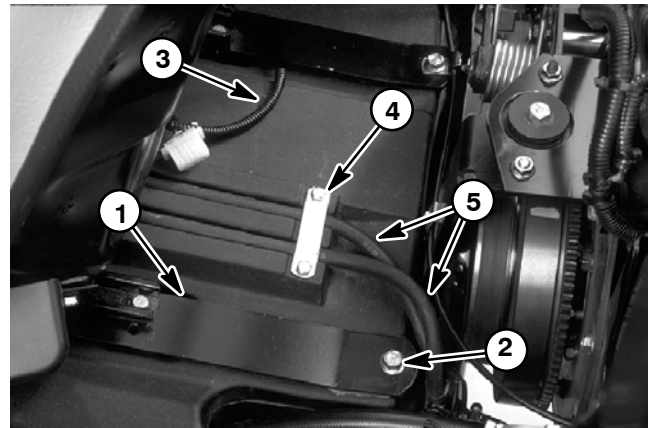

Figure 5
2. Remove fuel from the tank into a suitable container. Crossover fuel hose (item 44) removal may assist to drain tank completely.
3. Remove seat and seat support straps from the frame (see Operator Seat Removal in Chapter 6 - Chassis). Note location of spacers under front of seat support straps. Disconnect seat switch from the electrical harness (Fig. 5).
4. Remove fuel hose strap and both fuel hoses from the fuel tank. Pull tank from the machine (Fig. 5).